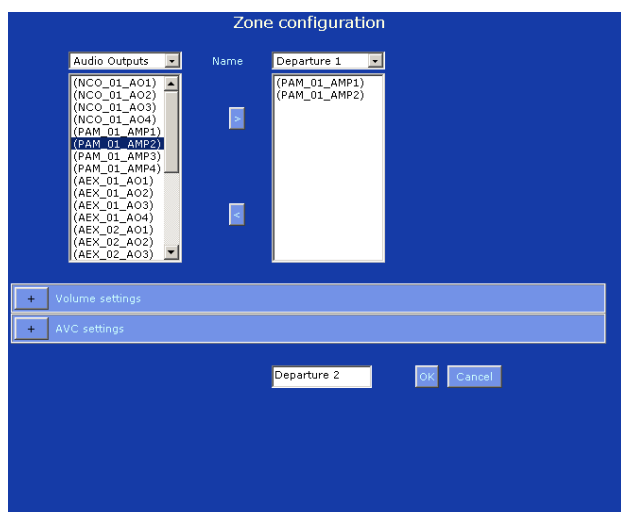

figure 36.5: Add zone, step 3
- 3 Enter a name for the new zone in the textbox at the bottom of the page. For example, *Departure 2* (see figure 36.5). It may consist of up to 16 characters.